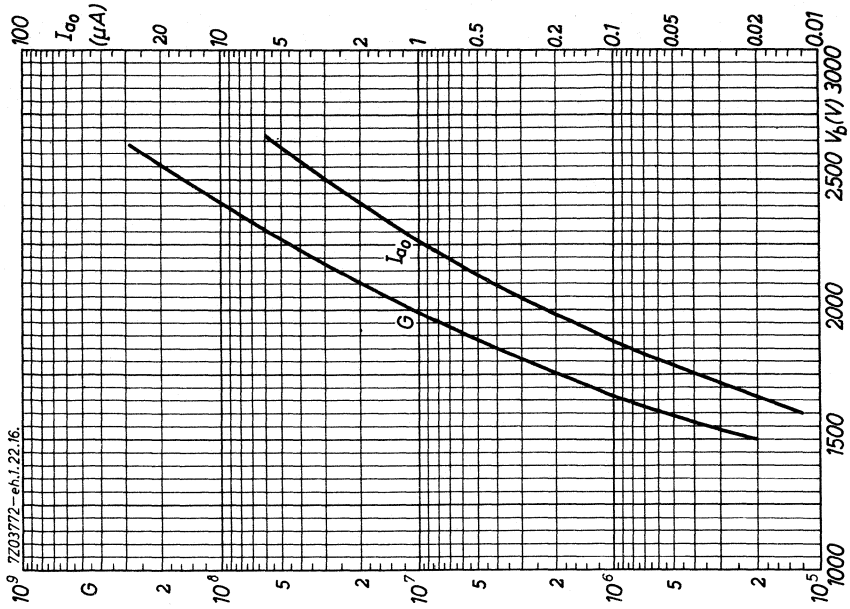

Fig. 1
- B. The multiplier system consists of 14 stages, providing a total current amplification of 10^8 at about 2400 V (see fig. 1) The tube is capable of producing very strong peak currents (up to 1 A). Actually, the time constant at the output of the multiplier must be very small. Therefore it is necessary, taking into account the parasitic capacitances, to use a low load resistance. It is advisable to use a resistance-matched coaxial cable (e.g. 75 or 100 Ω). With this load the tube easily delivers pulses of tens of volts, so that an amplifier is rendered superfluous.